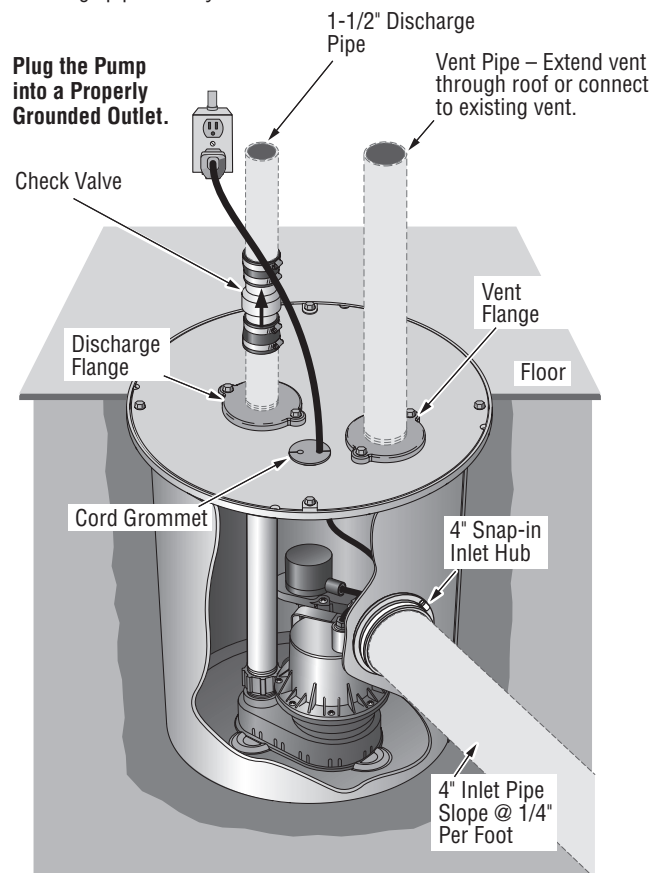

Figure 1: Typical Installation
Installation Instructions. See Figure 1.
1. Dig the hole for the basin and the sub-base. The hole must be deep enough so the top of the basin is flush with the finished floor. Refer to Figure 1, Page 4.
11. Install the 1-1/2" check valve (supplied) in the discharge pipe. See Figure 1. Make certain the flow indicating arrow points away from the pump. This check valve will keep the water from running back into the basin when the pump is not running.